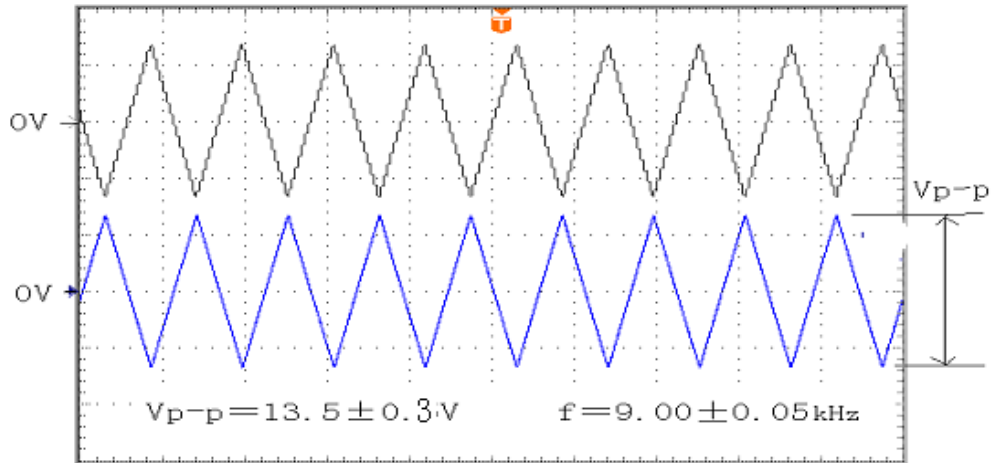

Figure 5-13 Triangle wave signal test and wave shape
B. Test the PWM board (3 board) IC3-1P, 7P signal with a oscillograph, the wave should be two anti-phase 9KHz triangle wave, as shown in figure 5-13. It can be tested with a multimeter, the value tested should be $2.1 \pm 0.2V_{ac}$, $0.1 \pm 0.1V_{DC}$ (GND connect to right pin of R54).